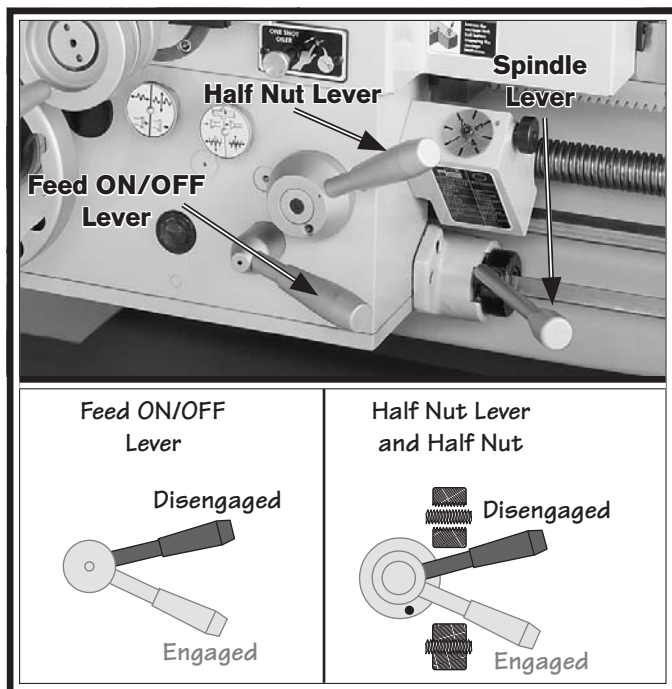

Figure 28. Apron controls for test run.
8. Pull up on the half nut and the feed ON/OFF levers (see **Figure 28**), then use the carriage handwheel to move the carriage back and forth to ensure that it is not engaged with the leadscrew or feed rod.
9. To prevent the spindle from rotating when power is applied to the motor, move the spindle lever to the OFF (middle) position (see **Figure 28**).